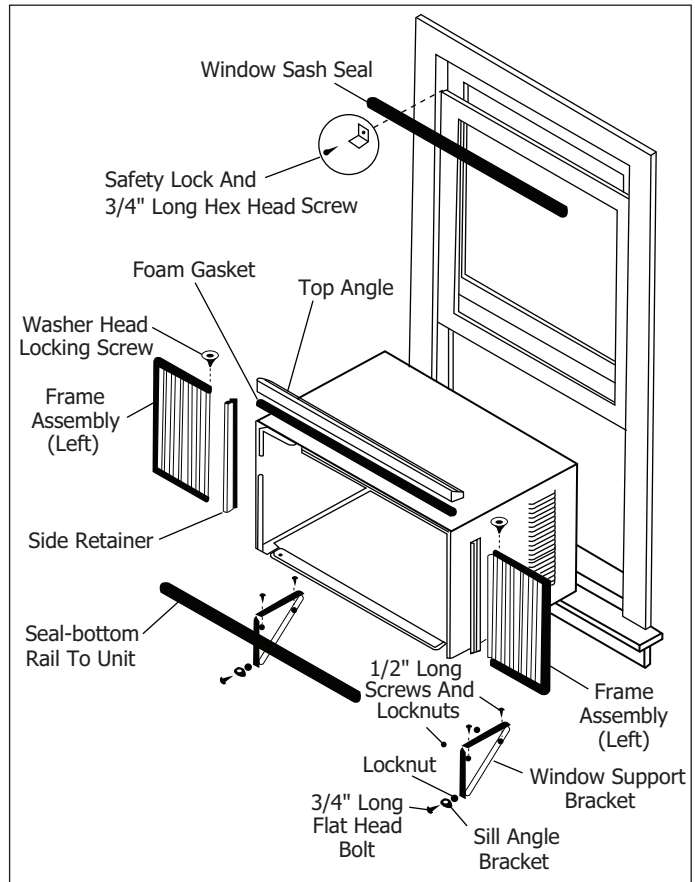

Figure 2-10.
3. **Check your storm windows.** If the storm window frame does not allow the clearance required, correct by adding a piece of wood as shown in Figure 2-10, or by removing storm window while room air conditioner is being installed.